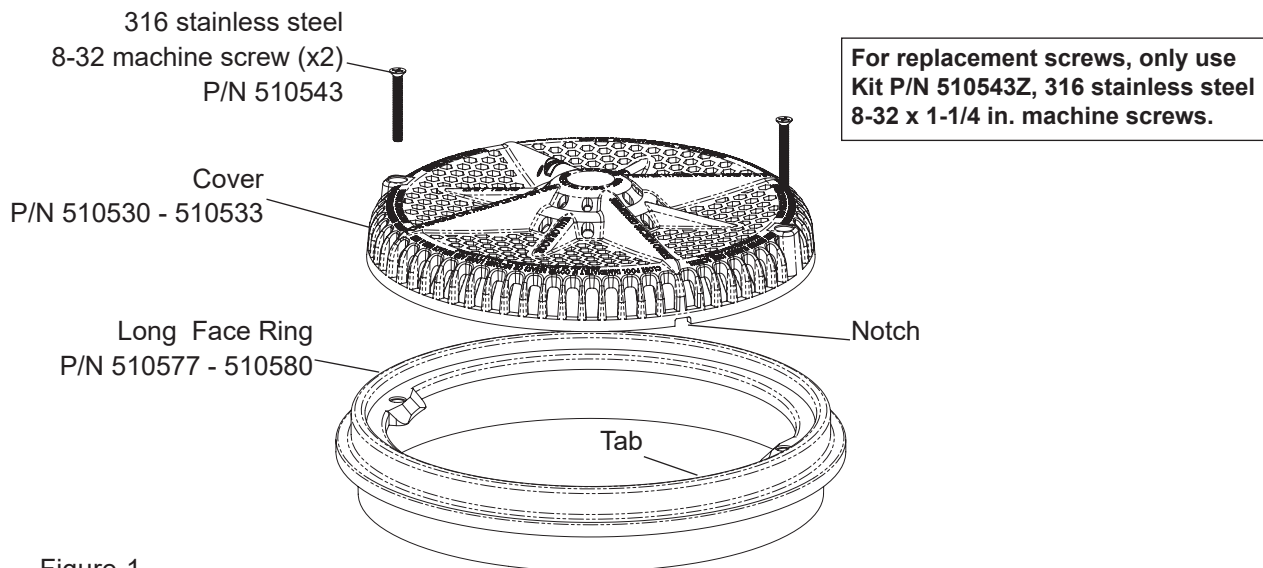

Figure 1
3. Mount the drain cover on top of the face ring/suction outlet (see Figure 1).
5. Install the two (2) 316 stainless steel 8-32 machine screws (provided) into the holes in the top of the cover. Using a No. 2 Philips head screwdriver, tighten each retaining screw to a torque value of 10.00 (minimum) to 15.0 (maximum) in/lbs to secure the cover. HAND START EACH SCREW. DO NOT OVER TIGHTEN THE SCREWS. DO NOT ASSEMBLE WITH POWER TOOLS.